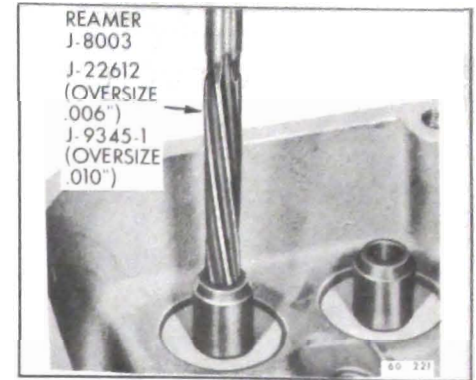

Figure 60-215 Reaming Valve Guide
7. If valve stem has too much clearance in its guide, the guide should be reamed to .006" oversize using J-22612 and then to .010" oversize using Reamer J-9345-1. See Figure 60-215.